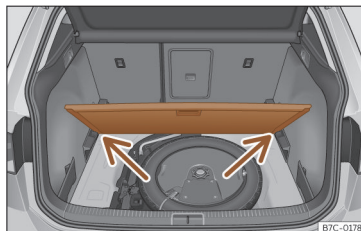

Fig. 110 Variable luggage compartment floor: inclined position.
- Rest the floor on its housings >>> **Fig. 110** (arrows).